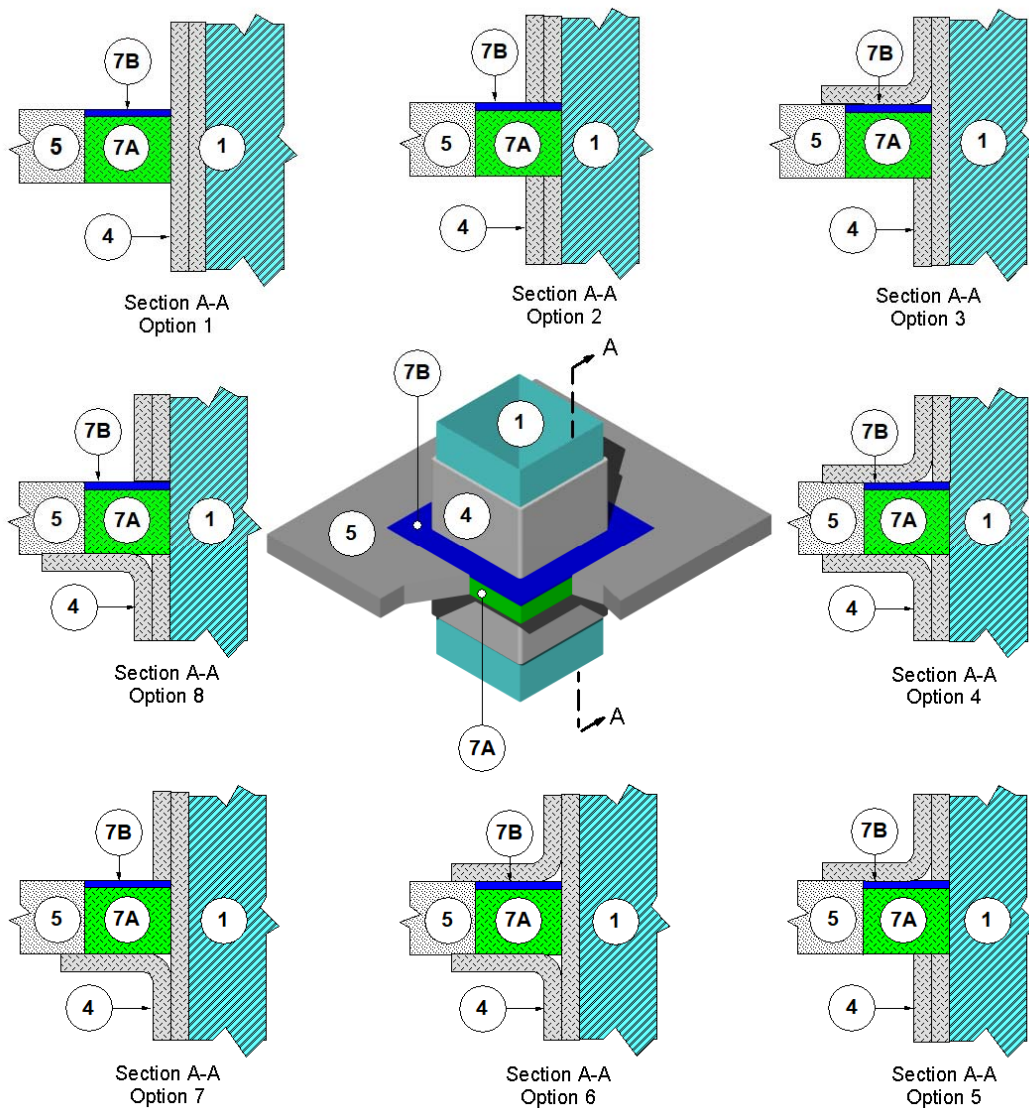

Figure 1. Penetration Firestop Systems – Floor Penetrations
- Floor Penetration Firestop Options 2, 4, 5, and 8 (Refer to Figure 1): locate a row of pins on the underside of floor assembly.
6. OPENING: Create an opening in the supporting construction. For framed walls, the opening shall be framed out using min. 2x4 wood studs or min. 25 GA steel studs as appropriate for framing material type. The opening shall have a solid perimeter face for concrete and masonry wall construction. Round ducts may be used only with concrete wall or floor assemblies (Items 5A, 5C, and 5D) and shall be installed in a round opening. The opening shall be sized with dimensions max. 5 in. greater than the penetrating item. The penetrating item dimensions shall be those of the bare grease duct, the grease duct with one layer of insulation, or the grease duct with two layers of insulation, depending on the number of layers of insulation passing through the supporting construction. Position the grease duct, concentrically or eccentrically in the opening such that there is a min. 1/2 in. and max. 4-1/2 in. annular space. The annular space is measured between the edge of the opening in the supporting construction and the penetrating item with either no insulation, one layer of insulation, or two layers of insulations, depending on the number of insulation layers passing through the supporting construction. Please refer to Figures 1 and 2, Section A-A, Options 1-8.
7. PENETRATION FIRESTOP: Refer to Figures 1 and 2. Use a firestop system with the following minimum requirements: